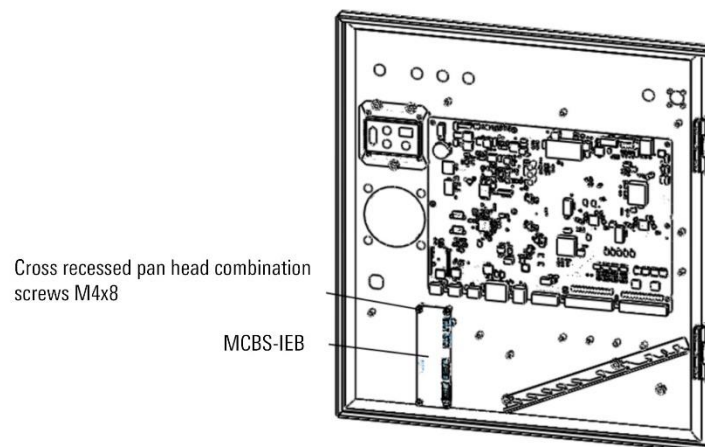

Figure 18-30 MCBS-IEB installation diagram
Step3. Use the cross recessed pan head combination screws M3x8 to install the MCBS-IEB on the front door, and use the previously removed cross recessed pan head combination screws M3x8 to re-fix the MCBS on the front door, refer to Figure 18-30. When installing, pay attention to the wiring of the ARC5-MCBS and gusset cable connected in the previous step, and do not press the wiring harness when the circuit board is fixed.